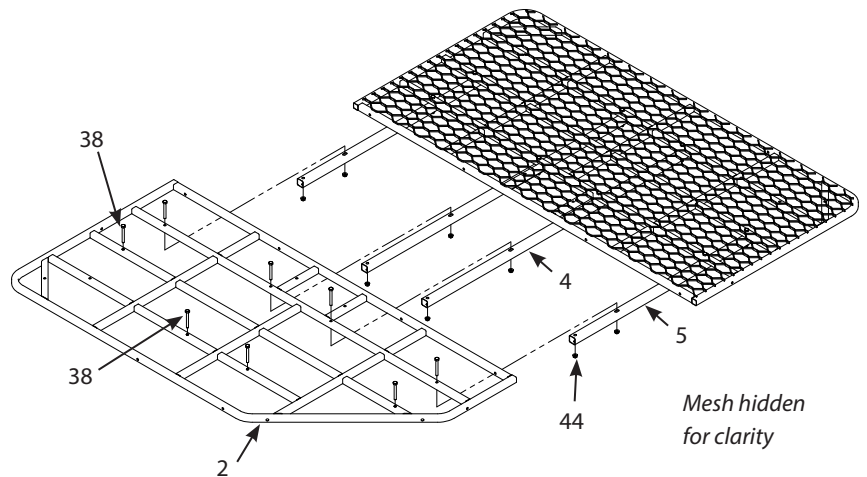

FIGURE 2
2. Attach the front platform (2) to all four platform braces (4, 5) using two 1/4-20 X 2-1/4 IN bolts (38) and 1/4-20 nuts (44) for each brace. **SEE FIGURE 2.**